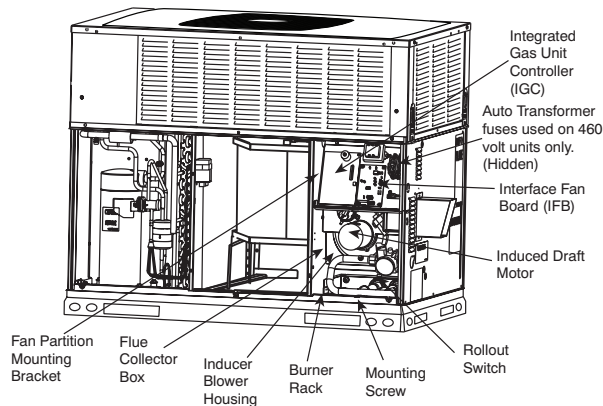

Fig. 25 - Blower Housing and Flue Collector Box
5. Remove fan partition mounting bracket (2 screws located on the left side of control compartment on the fan partition panel). Slide bracket forward, bottom first, to remove. (See Fig. 25.)
7. Remove the mounting screw that attaches the burner rack to the unit base (See Fig. 25).
8. Partially slide the burner rack out of the unit (see Fig. 25 and 26). Remove ignitor and sensor wires at the burner assembly. Remove wires to rollout switch.
9. Slide the burner rack out of the unit (See Fig. 25 and 26).